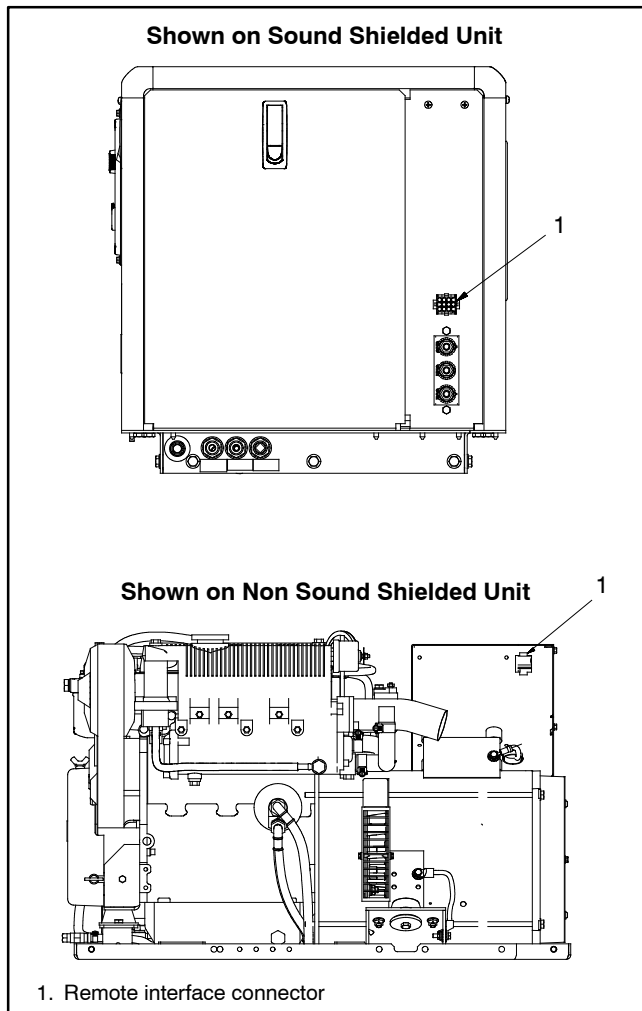

Figure 5 Remote Customer Interface Connector
4. Connect the 12-pin connector end of the connection harness to the generator set's customer-interface 12-pin connector. See Figure 4 and Figure 5. Use a remote extension harness if additional length is required.